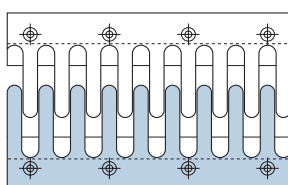

Fig 1
- WP joints are manufactured on request and may be adapted to the directional movement of the main structure, straight (fig.1) or skew (fig.2);